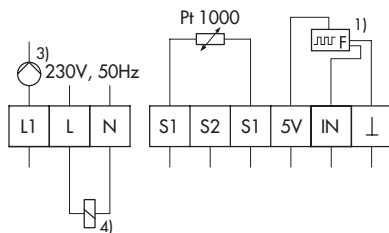

Fig. 4 · Wiring of Type 5724/5725 (default)
The default setting (WE) is configured for an application of the electric actuator with a Pt 1000 flow temperature sensor, water flowmeter and pump control output (see Fig. 4).